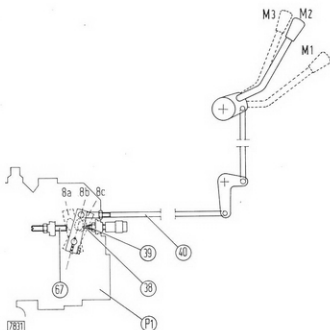

Fig. 54 - The Throttle Linkage
Fig. 54 shows accelerator control lever positions for maximum speed (8a), idling (8b) and shut-off (8c).
- Slowly move accelerator lever (M₂, Fig. 54) upwards until the throttle lever begins to depress spring-loaded idling stop (38).
To check engine shut-off move the accelerator lever upward to position (M₃, Fig. 54), when the throttle lever should depress idling stop (38) fully and contact stop screw (39) to shut down the engine.